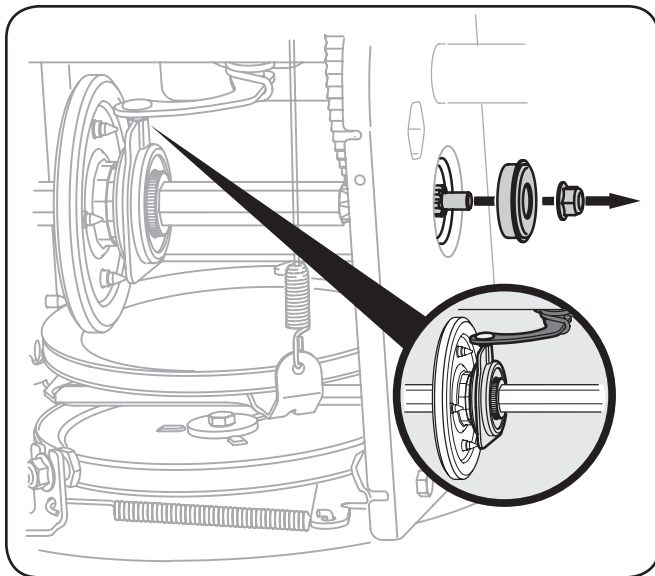

Figure 7-8
- Carefully remove the hex nut which secures the hex shaft to the snow thrower frame and lightly tap the shaft's end to dislodge the ball bearing from the right side of the frame. See Figure 7-8.
NOTE: Make sure the shift lever pin is in place in the bearing housing. See Figure 7-8 inset.